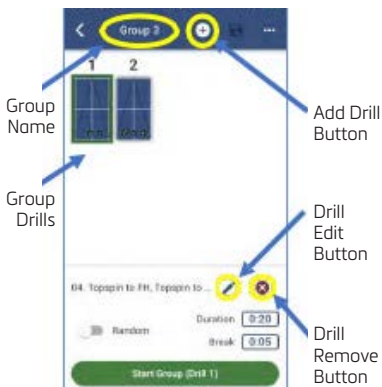

Figure 3-72
2. Select the Drill that you'd like to edit by clicking on the Drill icon on the Group edit screen. The name of the Drill will be displayed on the lower half of the Group Edit screen. (Figure 3-72)